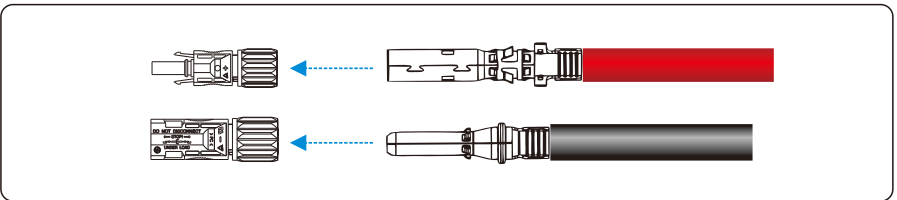

Figure 5.12 Connecting positive and negative connectors
**Step 3** Insert the crimped positive and negative power cables into the corresponding positive and negative connectors until a "click" sound is heard, as shown in Figure 5.12.